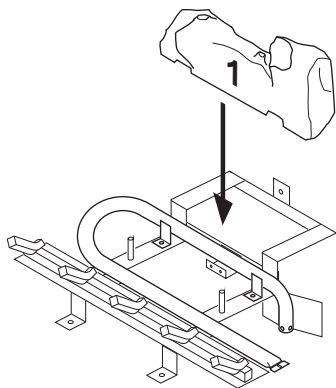

Figure 39 - Installing Log No. 1
It is very important to install these logs exactly as instructed in Figures 39 through 43. Do not modify logs. Only use logs supplied with freestanding burner system. Do not use if any log(s) are broken (see *Replacement Parts*, page 35).
2. Place log #1 (back log) on top of grate. Make sure notches in the bottom of log fit over the grate (see Figure 39).